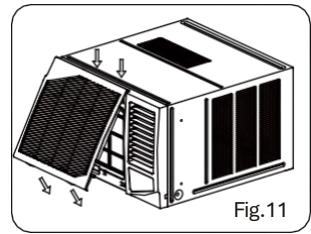

Fig. 11
2. Hang the front panel on the frame loop, then press the front panel in the frame slot until you hear a click (see Fig. 11).